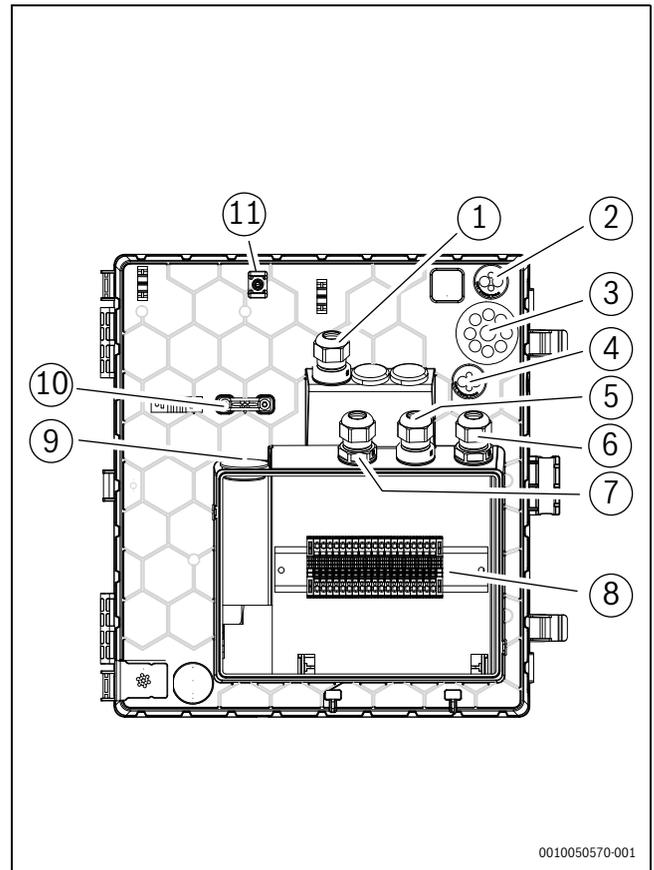

Fig. 27 Cable feeds to electric box
3. Feed the cables into the electric box (→Figure 27).
For cable feeds (→Figure 27 [2], [3], [4], [10]) a small prick in the membrane is enough, then the lines can be pushed through.
- After inserting the cables, tighten the cable glands (→Figure 27 [1], [5], [6], [7], [8]).
- Use the defined fixing points [12] to fix the cables that was inserted through the entries (→Figure 27 [2], [3], [4]).